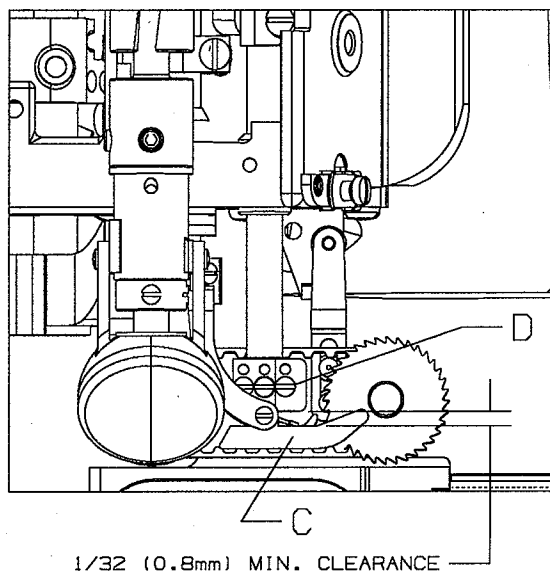

Fig. 1
Turn air supply off to presser foot air cylinder assembly (A). Loosen screw (E) on presser foot stop collar (F). Turn handwheel (G) until needle bar (D, Fig. 1) is at bottom of stroke. Lift presser foot (C, Fig. 1) up until there is $1/32$ " (0.8mm) clearance between needle bar (D, Fig. 1) and rubber washer (H) up until they contact underside of head. Retighten screw (E).